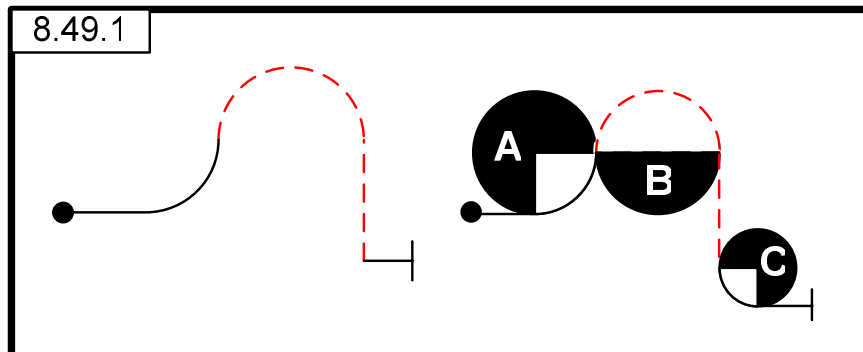

Fig. 48
When multiple part loops join each other in these sub-families, their radii must be equal and there is no line between the loops. A line drawn would be a minimum two (2) point deduction depending on the length of the line (Fig. 48). The 1/4 loop that returns the aircraft to horizontal flight should have a reasonable radius, but need not match the other looping radii.